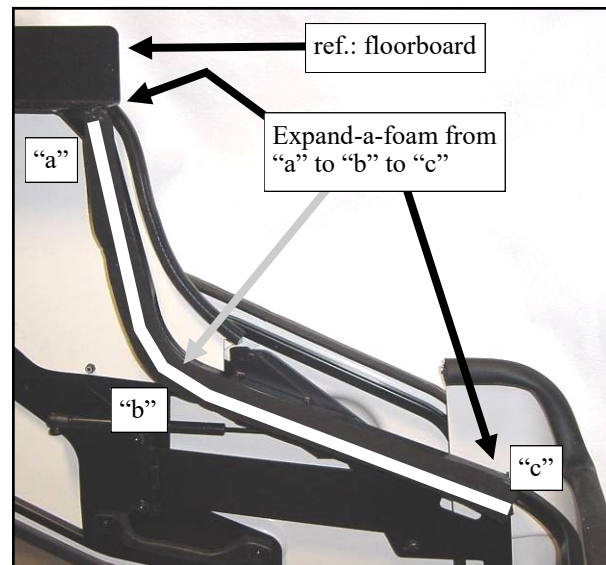

Fig. 3.1 (view of upside down driver's side assembly)
3.1 Cut the supplied Expand-a-foam into two pieces that are 29" long. With assistance, position the driver's side side frame assembly upside down so the floorboard is up as shown in fig. 3.1. Note: for clarification, the Expand-a-foam is represented by a heavy white line in the photo. Install one 29" long piece of Expand-a-foam to the in-board surface of the tubing as shown. Note: self-adhesive foam should be applied to a clean, dry surface at room temperature for best adhesion. Begin the installation near the floorboard (a) and end it at approximately point c where shown. Note: the expand-a-foam can take up to 24 hours to expand out to its full 2". This process can be speeded up, or aided by applying heat with a heat gun or similar appliance. Repeat for opposite side frame assembly (passenger's side).